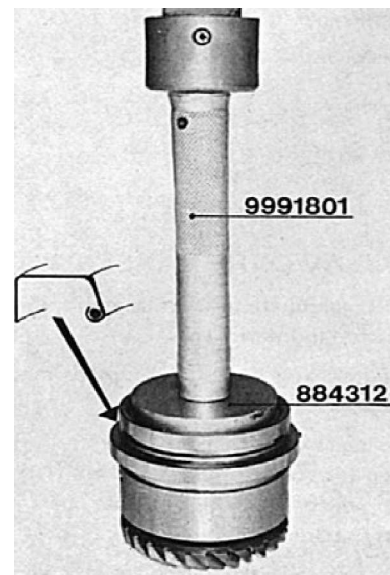

Fig. 20.
7. Again remove tool 884483 from the double bearing box. Remove the stop washer (18) and the shims. Press the new sealing ring (16) up against the shoulder on the double bearing box, with the open part facing downwards. Use tools 9991801 and 884312, see Fig. 20. Fit the circlip (17) and the stop washer (18) with shims.
8. Fix the O-ring (19) on the stop washer (18) with grease.